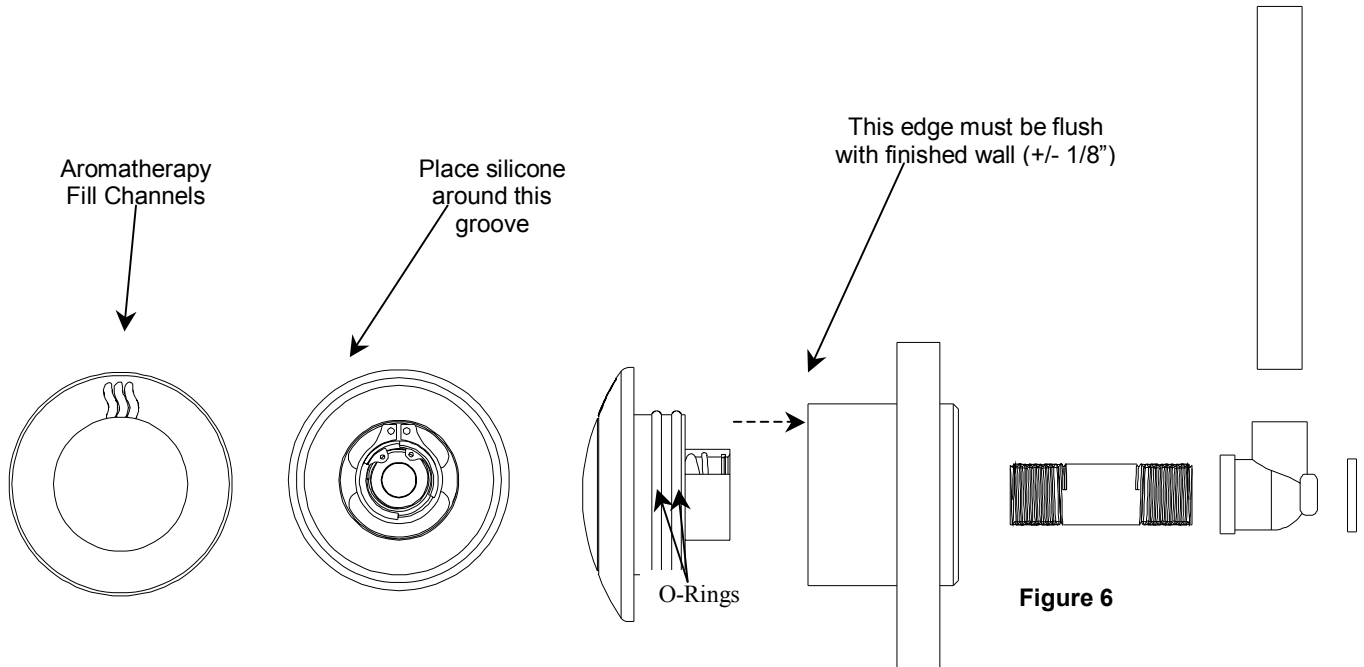

Figure 6
3. Final Installation (steam head): When installing the steam head in to the housing be sure that the aromatherapy fill channels are facing upwards see figure 6. To ensure that no moisture gets behind the steam head and into the wall, place a generous bead of waterproof silicone around the steam head, use the machined groove as a guide. Be sure that within the housing there isn't any debris, and the two O-rings are in place on the steam head. Slide the steam head into the housing until the steam head is tight against the finished wall. You may need to wipe away any excess silicone. Use figure 4 as a reference to these steps.